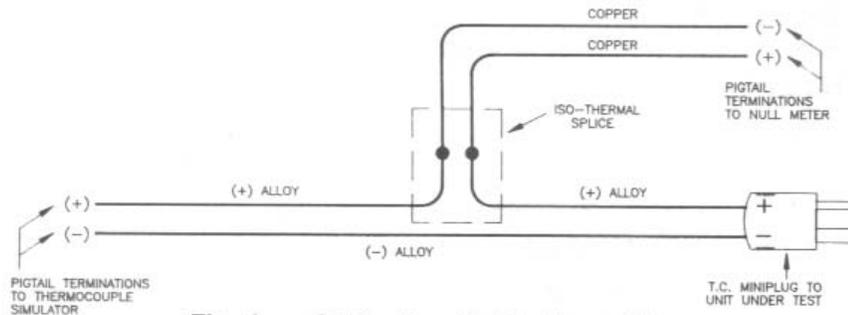

Fig. 1 — Calibration Cable Assembly
4. Calibration cables, T.C. types K, J, T & E (as required) per Figure 1 page 43.